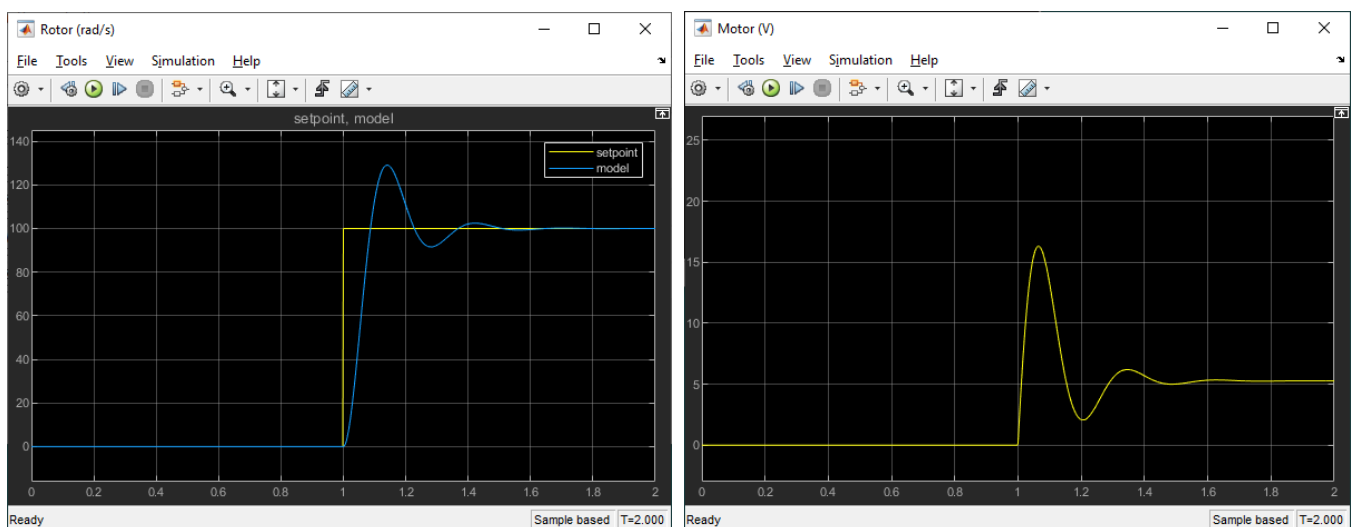

Figure 2 – Sample simulated rotor speed control response using $k_p=0.1$ and $k_i=5$.
5. Run the *s_aero2_rotor_pi* Simulink model to simulate the closed-loop response of the PI control. The response using the default PI gains $k_p = 0.1$ V/(rad/s) and $k_i = 5$ V/rad is shown in Figure 2. Note that the response with the designed PI gains will be different.